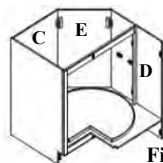

Figure 6
- 6. Place the back panel (E)** connect with rear side panels and align the cam lock connectors. (**Figure 6**) Align the cam lock connectors and lock.